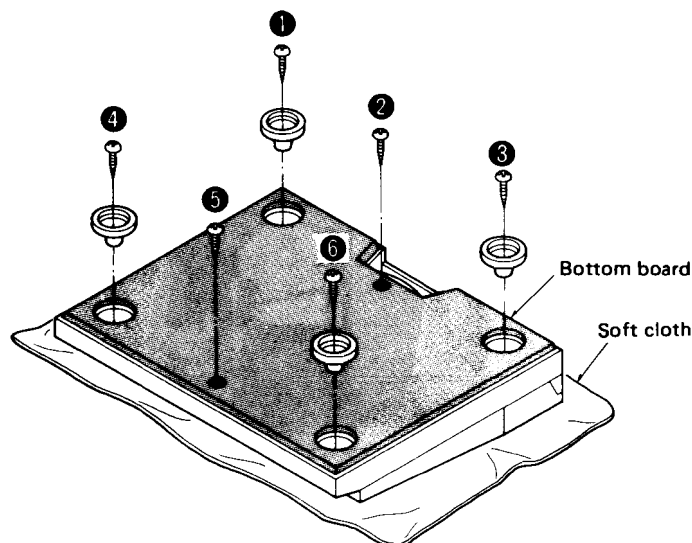

Fig. 5
3. Remove the 6 setscrews (Fig. 5 ① ~ ⑥), 4 Insulators and 4 springs (Fig. 5)